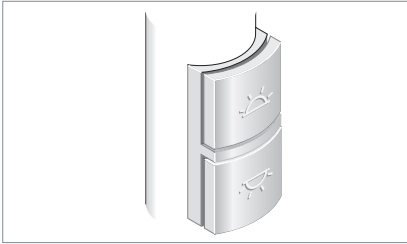

Fig. 12: Switches.
- ▶ Press the upper switch, see Fig. 12.
- ▶ Press the lower switch, see Fig. 12.
- ▶ Press the upper switch and keep it depressed, see Fig. 12. After about one second, the light will change its brightness.
- ▶ Press the lower switch and keep it depressed, see Fig. 12. After about one second, the light will change its brightness.
- ▶ Press both switches simultaneously and keep them depressed for ten seconds, see Fig. 12.